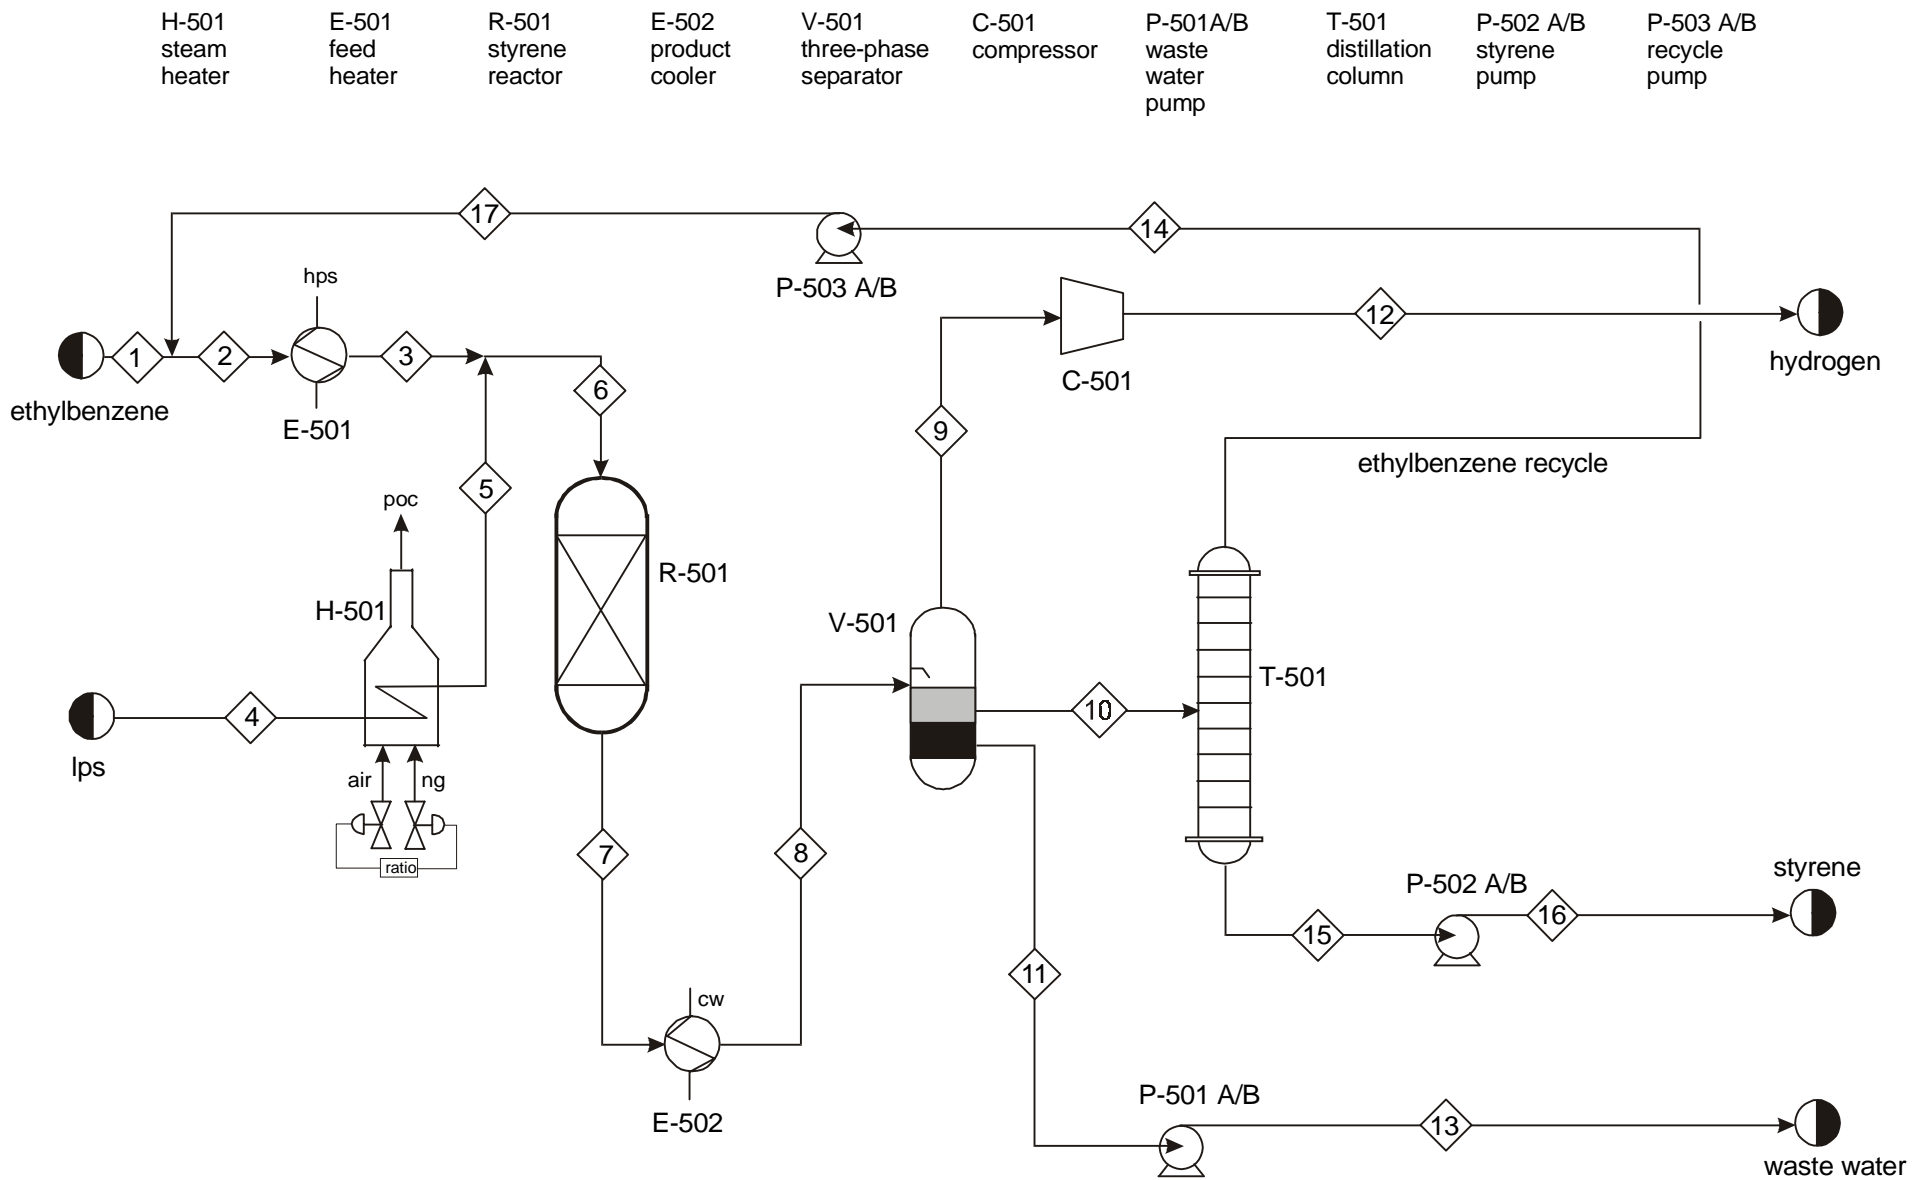

Figure 1: Unit 500: Production of Styrene from Ethylbenzene
The PFD for the feed and reaction sections is given in Figure 1. Feed to the process consisting of liquid ethylbenzene, is mixed with recycle liquid ethylbenzene.
1. **Optimization of the Feed Section and Wastewater Pump.** (ChE 110) Refer to Figure 1. You are to size P-501 A/B. Determine the optimum pipe size for Streams 11 and 13. The objective function for the optimization is the Equivalent Annual Operating Cost (EAOC) of the pipe in Streams 11 and 13 and P-501 A/B (\$/y). The *EAOC* is defined as: